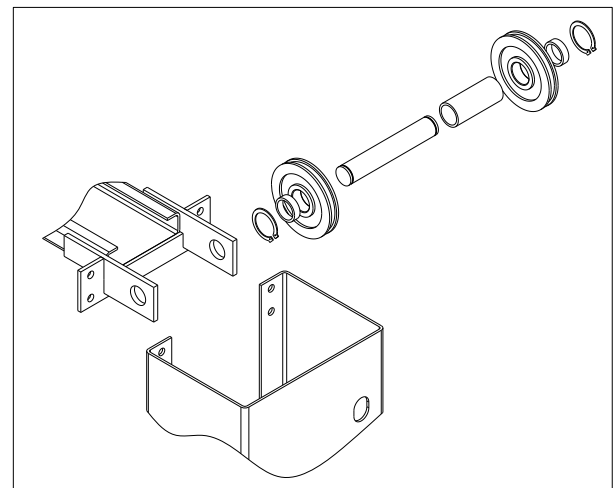

Fig. 34
- ◆ Connect crossbeams to both columns to both columns to **Fig. 34**. (Notice that the limited switched is inside the main column.)